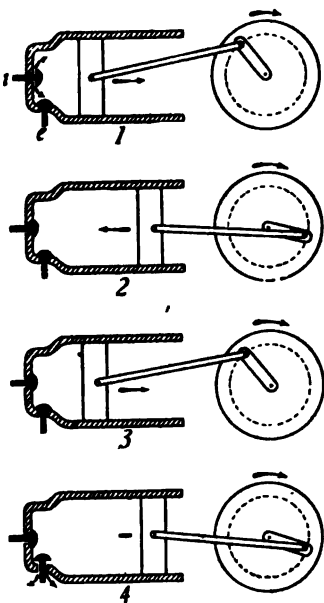

FIG. 165.—The four strokes of a gas engine cycle.
quires four movements of the piston to complete one cycle or series of changes. This is illustrated in Fig. 165 1, which represents a cross-section of the *cylinder* of the gasoline engine with the *piston* moving downward. At the upper end of the cylinder are two *ports* or openings. One, the *exhaust* port, is closed, the
*inlet* port is open and a mixture of gas and air is entering. Fig. 165 2 shows the piston returning; both ports
force (Fig. 165 3). The pis-
it going through the next three strokes. Fig. 165 4 rep-